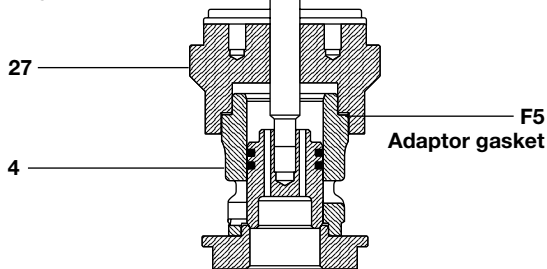

Fig. 4c
2. Unscrew the nuts (14) securing the bonnet to the bellows housing (31) and remove the bonnet assembly.
3. Unscrew the nuts (30) securing the bellows housing to the valve body and remove the housing complete with stem and plug.
Carefully supporting the bellows housing, remove the pin fixing the valve head to the stem (26). Remove the valve head and the cage adaptor (27) (see Fig. 4c) for restricted trim valves and withdraw the stem / bellows assembly (18) from the bellows housing.